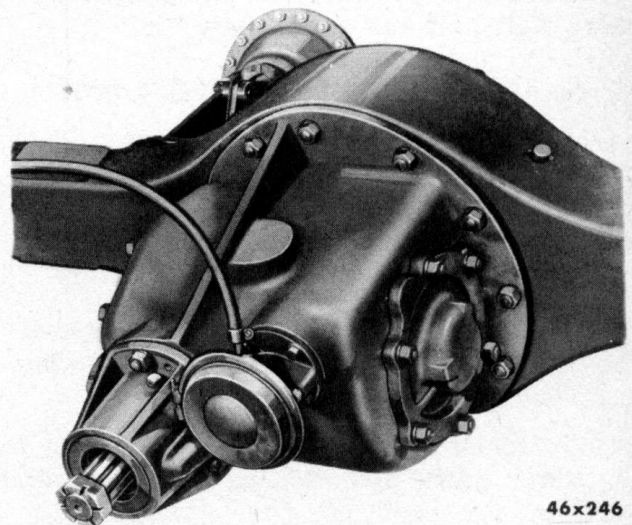

Fig. 79—Power Shift Unit, Front Mounted Type
b. Front Mounted Type (Fig. 79)